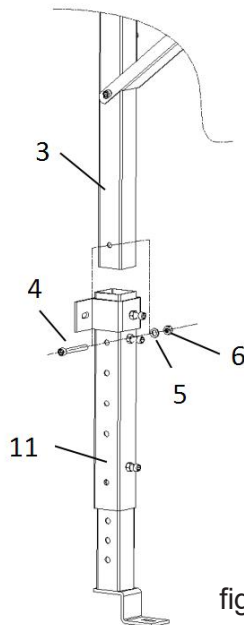

figure 5
- A. Slide extended vertical bar (3) into extended bracket(11) and secure in place with bolt(4), washer(5), and lock nut(6) at suitable position, the position of extended bracket(11) can be adjustable. Show as figure 5.